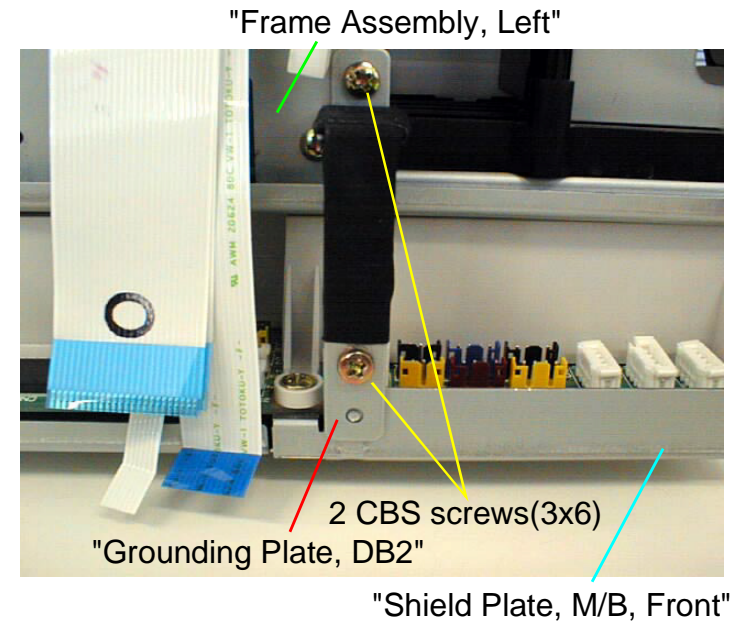

Figure 4-23. Grounding Plate, DB2 Removal
4. Remove "Grounding plate, DB2". (Refer to Figure4-23)
As it is shown in the figure4-23, the FFC to install to connector CN10 is marked with "O" on the cable surface.(FFC for left head)